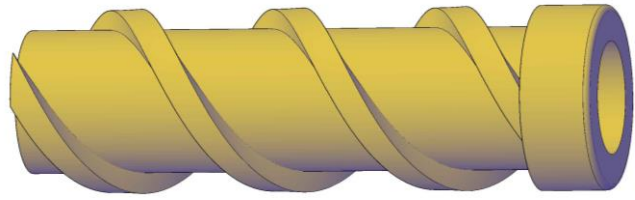
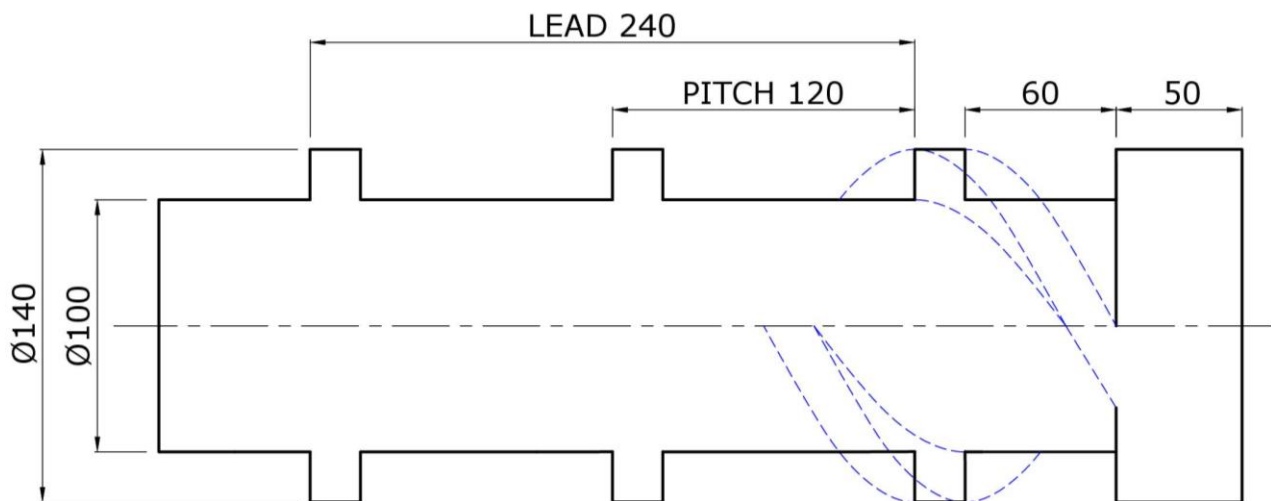

Figure 2a
Figure 2b
The illustration in Figure 2a shows a plastic injection moulded part of a lipstick case. Scaled up dimensions of the custom designed, quick action threaded component are given in Figure 2b.
a. copy the drawing given in Figure 2b;